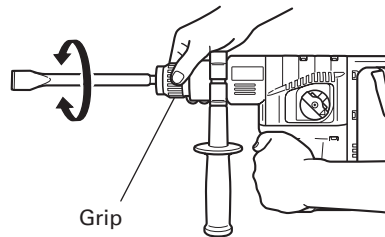

Fig. 11
- (1) Mount the bull point or cold chisel.
- (2) Press the push button and set the change lever to **T** mark or **T** mark. Then rotation is released, turn the grip and adjust the cold chisel to desired position. (Fig. 11)